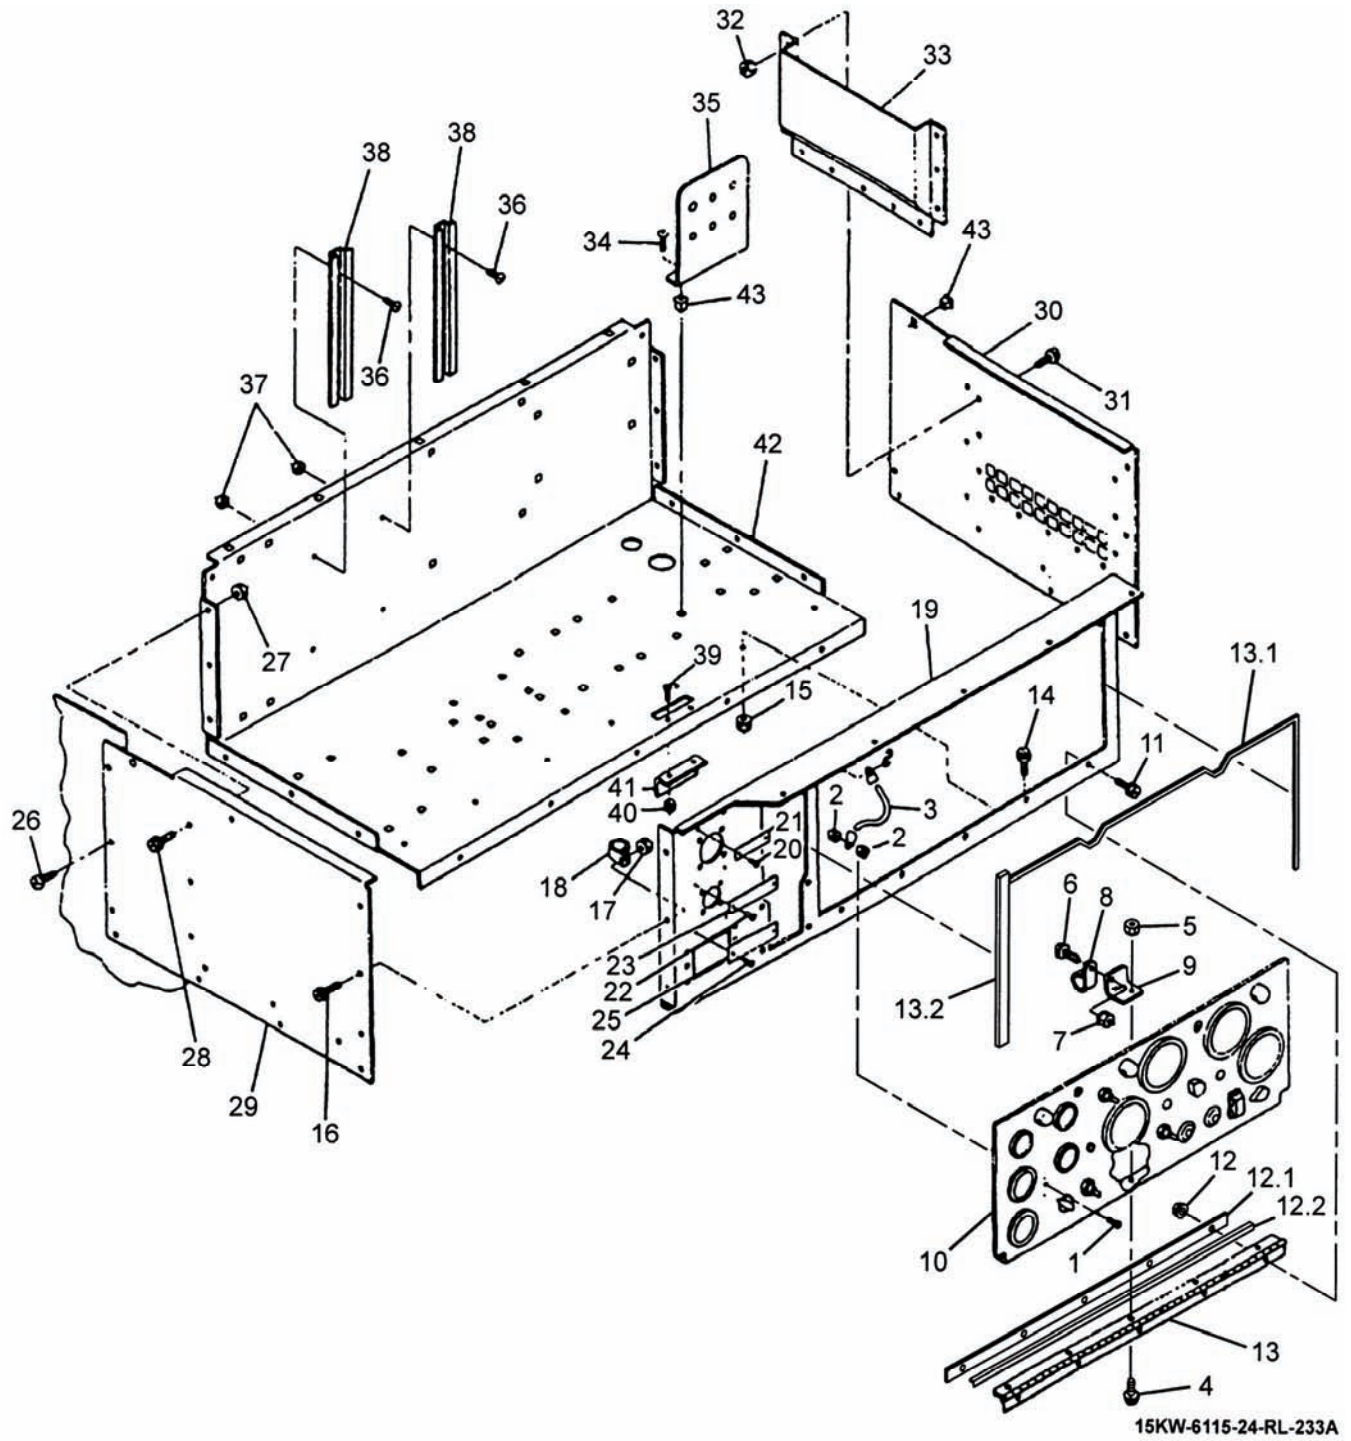

Figure 2-20. Control Box Panels.
Inspect control panel (10, Figure 2-20) for dents, cracks, loose paint, and corrosion.
- f. Tag and disconnect all electrical leads to remaining indicators and switches on control panel (10, Figure 2-20).
- g. Remove screw (1), nuts (2), and strap (3).
- h. Remove bolts (4 and 6), nuts (5 and 7), bracket (9), clamp (8), and control panel (10) from control box assembly.
- i. MEP-804A/MEP-814A: Remove bolts (11), nuts (12), and hinge (13) from control box assembly.
- a. MEP-804A/MEP-814A: Install hinge (13, Figure 2-20) on control box assembly with bolts (11) and nuts (12).
MEP-804B/MEP-814B: Install hinge (13, Figure 2-20), seal (12.2), and seal retainer (12.1) on control box assembly with bolts (11) and nuts (12).
- b. Install control panel (10), clamp (8), and bracket (9) on control box assembly with bolts (4 and 6) and nuts (5 and 7).
- c. Install strap (3) on control panel (10) with screw (1) and nuts (2).
Inspect control panel frame (19, Figure 2-20) for dents, cracks, loose paint, and corrosion.
MEP-804B/MEP-814B: Inspect and remove EMI gaskets (13.1 and 13.2, Figure 2-20), if necessary.
- a. Install control panel frame (19, Figure 2-20) and clamp (18) to control box assembly with bolts (14 and 16) and nuts (15 and 17).
- b. If removed, install identification plates (21, 23, and 25) on rear panel (19) with rivets (20, 22, and 24).
- a. Inspect side panels (29 and 30, Figure 2-20) and air deflector (33) for dents, cracks, loose paint, and corrosion.
- b. Inspect for missing or damaged cage nuts (43).
- d. Remove bolts (16, 26, and 28, Figure 2-20), nuts (17 and 27), and control box side panels (29 and 30) from generator set.
- e. Remove bolts (31), nuts (32), and air deflector (33) from side panel (30).
- a. Apply a light coat of sealant (Item 16, Appendix C) to flanges of air deflector (33, Figure 2-20).
- b. Install air deflector (33) on control box side panel (30) with bolts (31) and nuts (32).
- c. Install control box side panels (29 and 30, Figure 2-20) on generator set with bolts (16, 26, and 28) and nuts (17 and 27). Ensure center bolt (16) and nut (17) on left side panel secures clamp (18).
- a. Inspect control box bottom (42, Figure 2-20) for dents, cracks, loose paint, and corrosion.